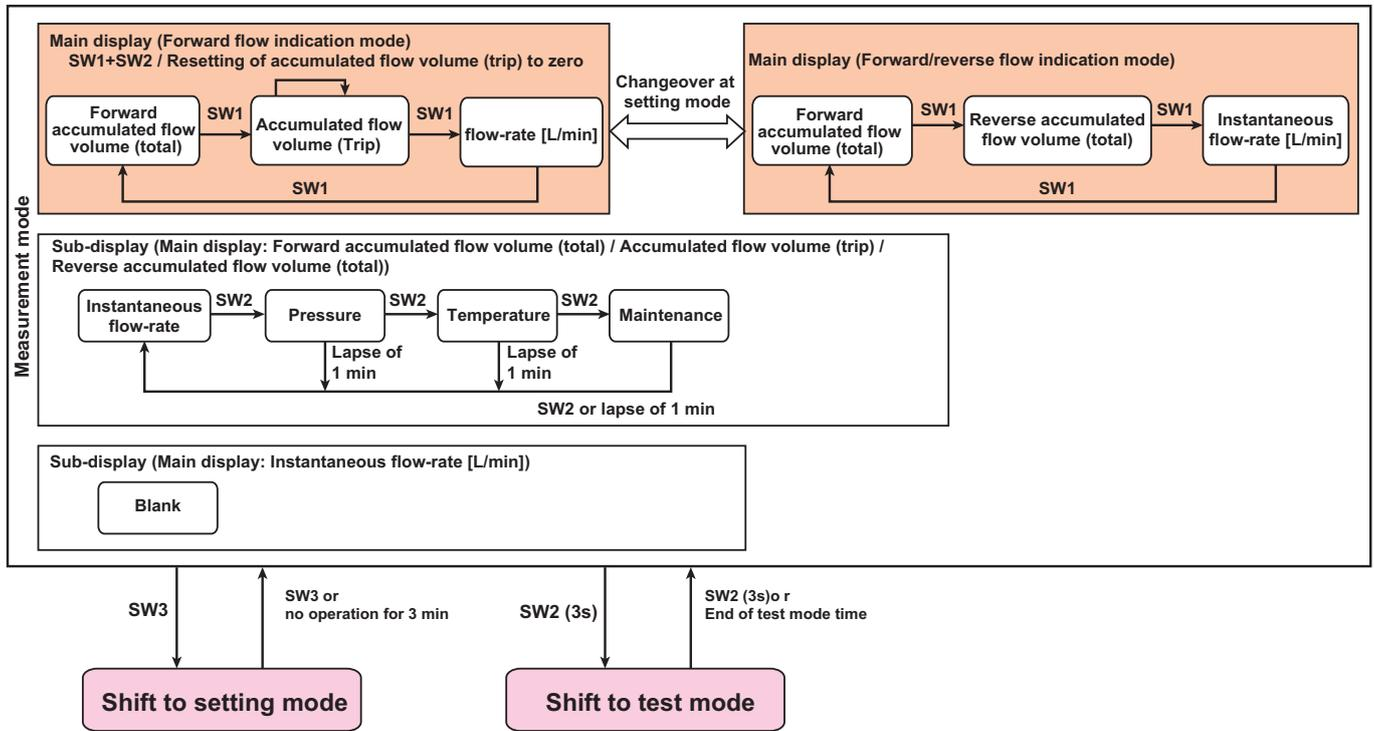

Fig. 4-2 Figure of button operations in measurement mode and shifts to various modes
- 4) By performing button operations in Table 4-1, the flow meter can be shifted to various modes as shown in Fig. 4-2.